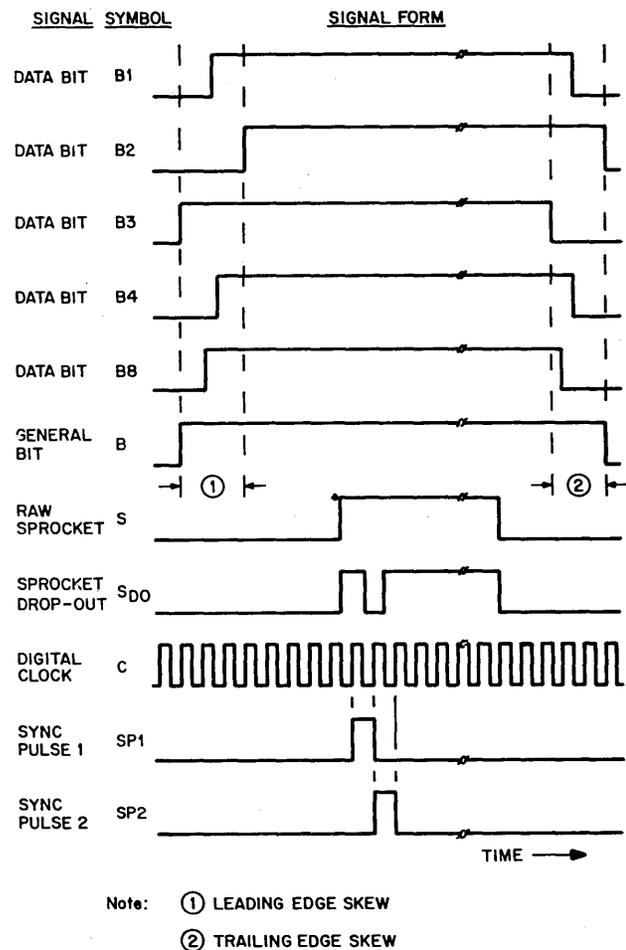

Fig. 1 Typical signal forms.
Typical signal forms associated with photoelectric punched tape readers for digital system communication are illustrated in Fig. 1. The 8 data bits associated with the tape character are data bit signals B1 through B8, with the tape character skew defined as the lack of coincidence of the data bit signals, shown at the leading and trailing edges of these signals. Superimposed on the center portion of the data bit signals is the "raw" sprocket signal. Leading and trailing edges of tape character signals are relatively square, indicative of an electronic trigger for signal processing. This trigger is not necessarily a requirement if the proper logical mechanization, described in the following text, is implemented. Logical mechanization requires less equipment than the tape character trigger amplifiers. It precludes the requirement for the trigger amplifiers and eliminates many error mechanisms associated with tape reader to digital system communication.
Control logic operation will require two types of inputs from the tape reader. They are the raw sprocket signal (S) and the data bit signals, which are used to form the general bit signal (B). The general bit signal is obtained by the logical OR of all of the eight individual data bit signals in the character. Therefore, the general bit signal (B) will be true from the time that the first data bit on the tape is detected to the time that the last data bit has dropped out (Fig. 1). The B logic signal will, effectively, bracket the tape character; where the B logic signal will be true when any portion of the tape character is read and will be false between the extremities of two adjacent tape characters.
The raw sprocket signal (S) is illustrated in Fig. 1 in conjunction with the digital system clock and data bit signals to show the control logic sequencing and the phase relations of the two signals. Raw sprocket signals will bracket an undefined number of clock pulses due to the sprocket signal pulse width tolerances. They will start on an undefined portion of the clock period, caused by the phase uncertainties due to the asynchronous characteristic of the sprocket signal relative to the clock signals. Sprocket pulse double strobe (drop-out) effect is illustrated in one of its forms, which could result in the same tape character being strobed twice into the digital system if proper precautions are not taken.
The control logic will accept the B and S logic signals and generate a sequence of two synchronization pulses (Fig. 1). These pulses will be used to properly sequence the tape character into the digital system; where the two sync pulses are sequential in nature, precisely one digital system clock period wide, precisely bracketing a clock pulse, and are triggered on by one clock pulse rise time and triggered off by the following one. Once the synchronization pulse sequence is initiated, a sprocket signal dropout will have no effect upon the completion of the sequence. In addition, once the sequence is completed the output is locked-up for the duration of the tape character. In this manner, the raw sprocket signal will initiate the pulse sequence; but, once initiated, the sprocket cannot discontinue the sequence or start a second sequence for that tape character. This sequence will be locked-up for the duration of the tape character and will not function again until the B logic signal has dropped out at the end of the tape character.
The Karnaugh map will be developed with respect to the time domain diagram, (Fig. 1) and the truth table and sequencing diagram illustrated in Fig. 3. Operation of the tape reader can begin at any arbitrary point, but will be assumed to start between tape characters, where neither a general bit (B) nor sprocket signal (S) exists. Input signals for this state are logical 0's for the B and S signals and logical 0's for the two internal flip-flops. When the tape starts moving, the first new signal encountered will be the B logic signal when the leading edge of a data bit is detected. This will cause a transition from the P0 to the P8 stable state as illustrated in Figs. 2 and 3. An output sync pulse will not be generated in the P8 state due to the tape character ambiguity caused by the leading edge skew effect. The next condition to occur will be the detection of the sprocket pulse, causing the control logic to make the transition to the P12 state. An output sync pulse is not generated in the P12 state due to the possibility that the clock pulse may have been "shaved", caused by the asynchronous nature of the transition from the P8 to the P12 state.